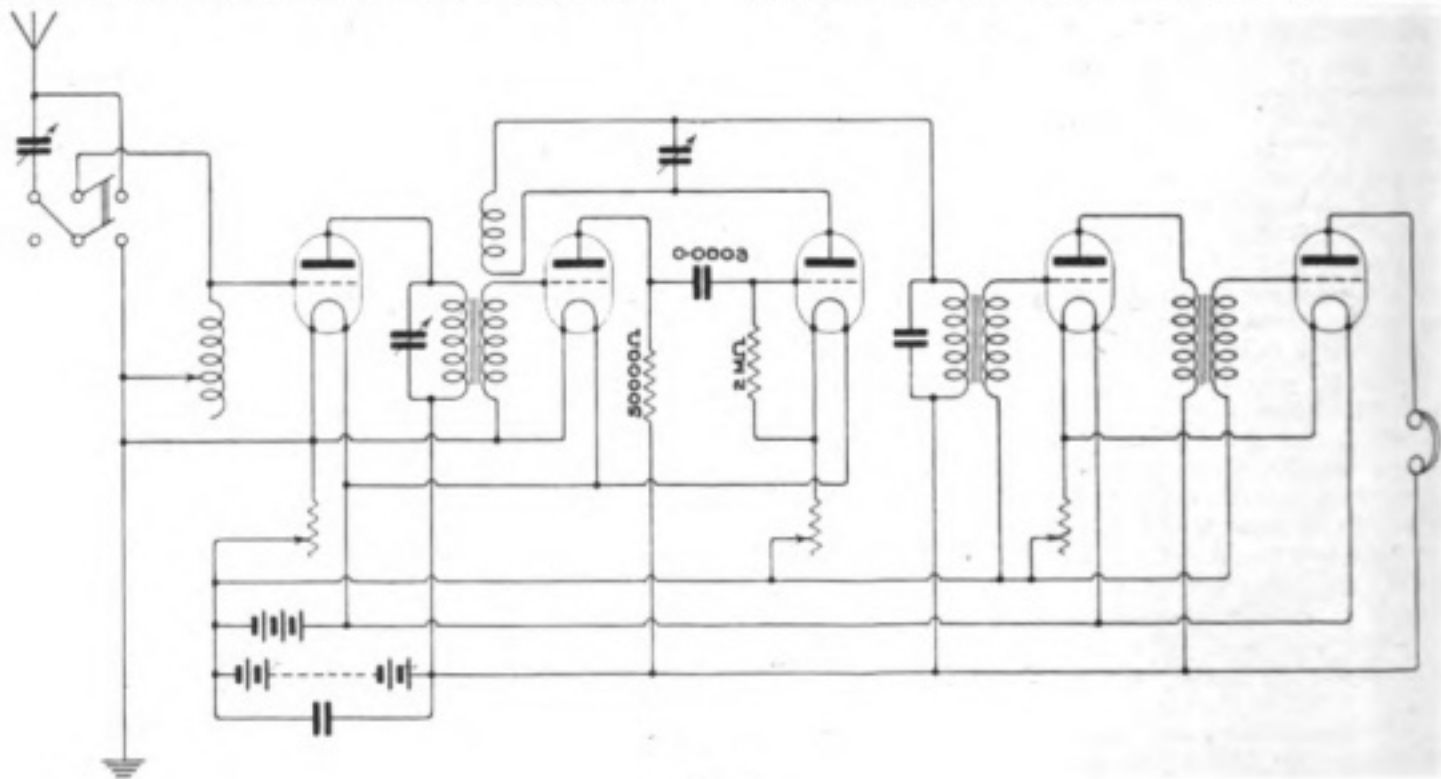

Fig. 5.
(1) See Fig. 5. (2) The method adding H.F. and L.F. circuits is easily apparent.